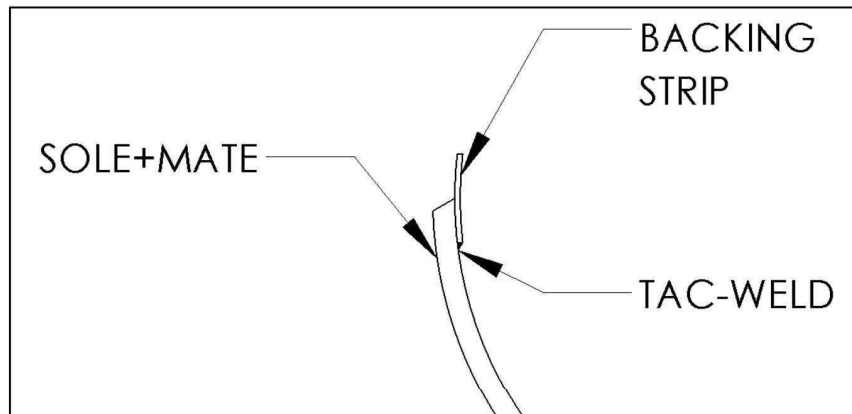

Figure 4
4. It can be helpful to tac-weld the backing strips onto the bottom half of both longitudinal weld bevels of the sleeve as shown in Figure 4. Position the backing strip with approximately half of the backing strip above the bevel.